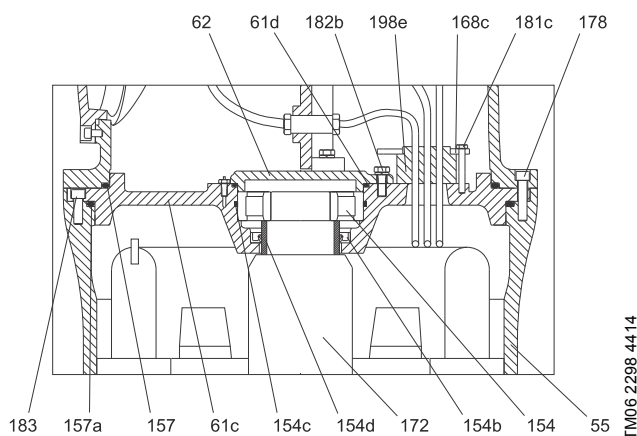

Fig. 99 Upper bearing, KPL 900-1800, KWM 800-1600
1. Place the stator housing (pos. 55) on two wooden beams.
2. Press the seal sleeve (pos. 154b) into place in the upper bearing bracket (pos. 61c). See fig. 99.
3. Lubricate and fit the O-ring (pos. 154c) in the bearing bush.
4. Press the outer ring of the upper bearing (pos. 154) into place in the upper bearing bracket (pos. 61c).